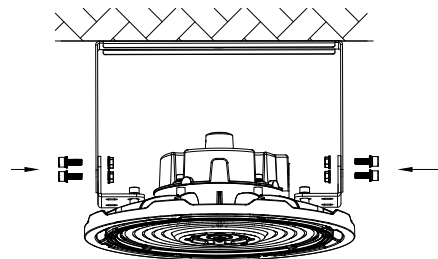

Figure 11
4. Secure the fixture to the ceiling by combine the U-shaped and L-shaped brackets. (Figure 11)